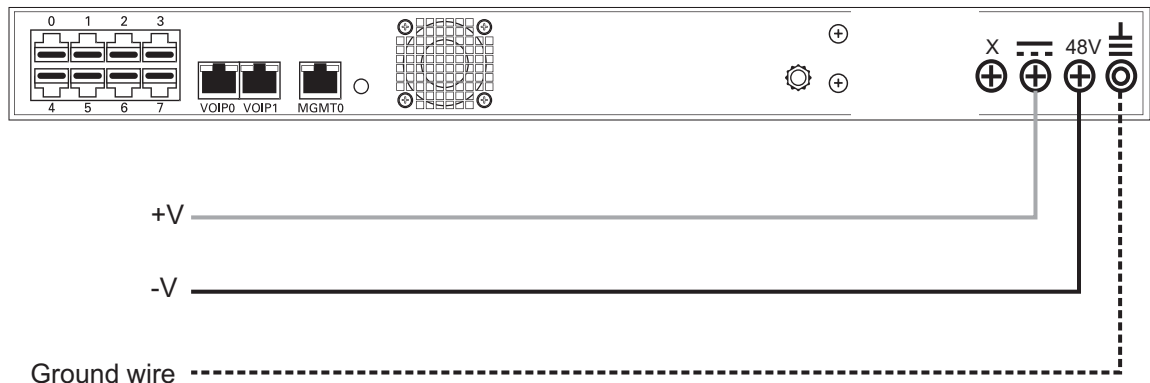

Figure 2.6 800 Series Gateway DC Wiring Diagram
Note Two types of cables, with different coloring, are available. Refer to figure 2.6 on page 18 for the appropriate wiring information.
1. Connect a ground wire to the ground plug located at the rear of the unit, as shown in figure 2.6 on page 18.
1. Connect a ground wire to the ground plug, located at the rear of the unit, as shown in figure 2.6 on page 18.